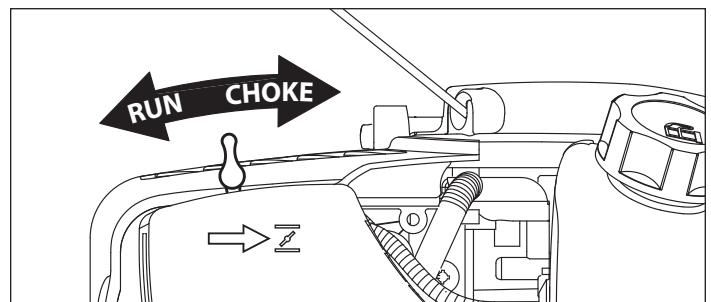

FIGURE 4
1. Move choke lever to **CHOKE** position. **SEE FIGURE 4**
NOTE: *Half choke is defined when the choke lever is between CHOKE and RUN positions. SEE FIGURE 4*
6. Move choke lever to **RUN** position and squeeze throttle to desired speed. **SEE FIGURE 4**